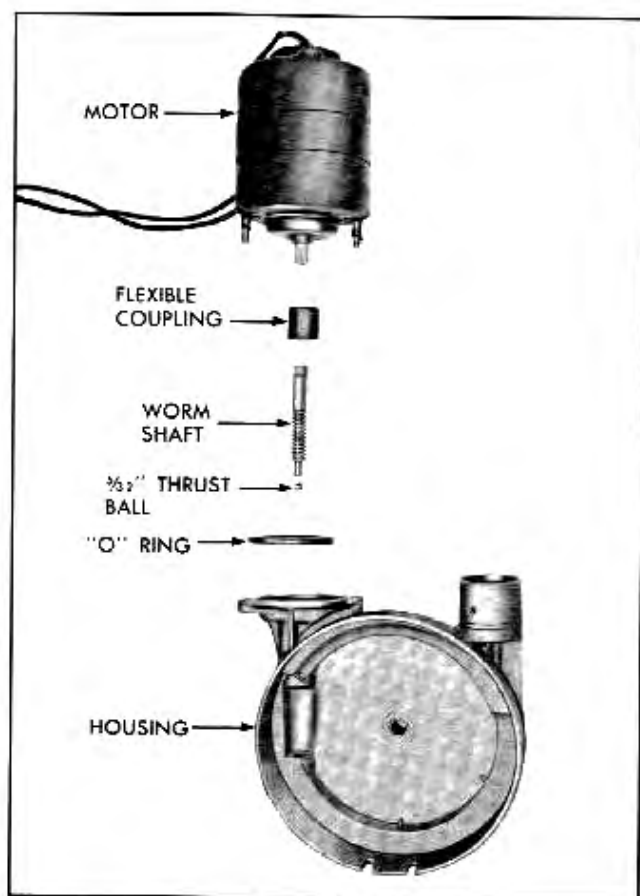

Fig. 14-13 Motor and Shaft—Exploded
12. Remove motor assembly with flexible coupling and remove "O" ring and worm shaft, being careful not to lose  $\frac{5}{32}$ " ball thrust bearing which is at end of shaft (Fig. 14-13). **NOTE:** If motor is to be replaced it will be necessary to unsolder electrical connections, noting location of wires and solder wires from new motor to same terminals.